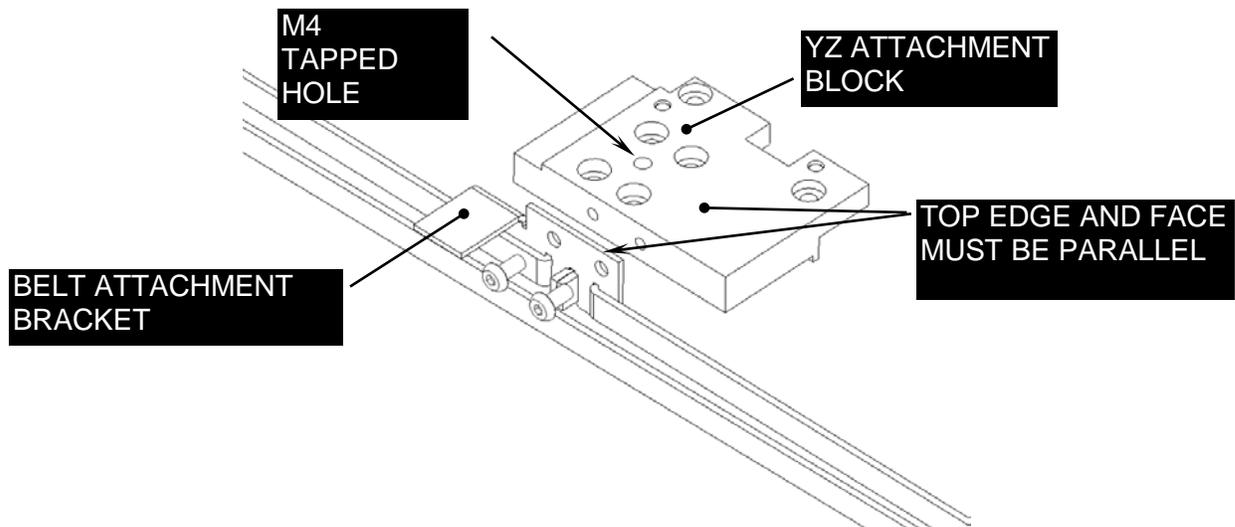

Figure 8-16: Belt Attachment Bracket and Block
2. Check the M4 tapped hole in the YZ Attachment Block by driving an M4X10 screw through the hole and then removing it. Fix the Y Belt Attachment Bracket to the YZ Attachment Block using two M3x6 Button Head Screws and Loctite 222. Ensure that the top edge of the belt attachment bracket is parallel to the face of the YZ Attachment Block (Figure 8-16).